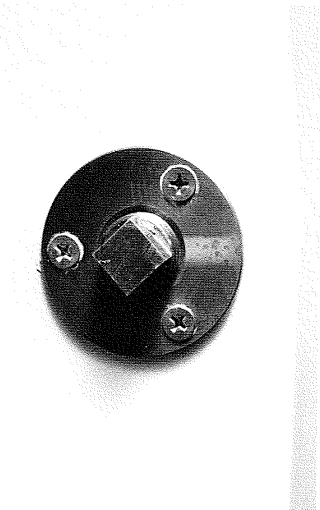

Figure 20
1. Remove the hull drain plug. The plug is in the outside of the transom below the gimbal. See figure 20.